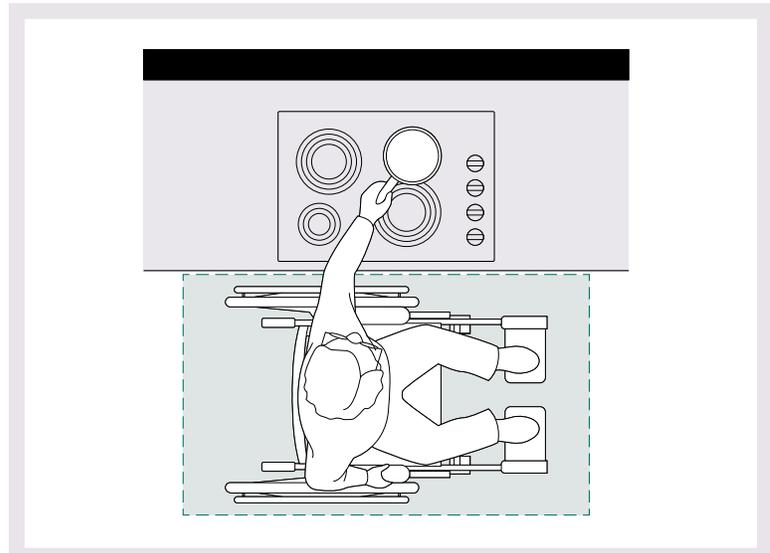

Figure 12: Parallel approach to cooktop on the range.
- E** Parallel approach to the cooktop (see Figure 12)